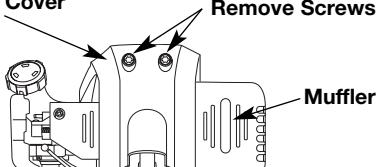

Fig. 33
6. Remove the engine cover (Fig. 33).